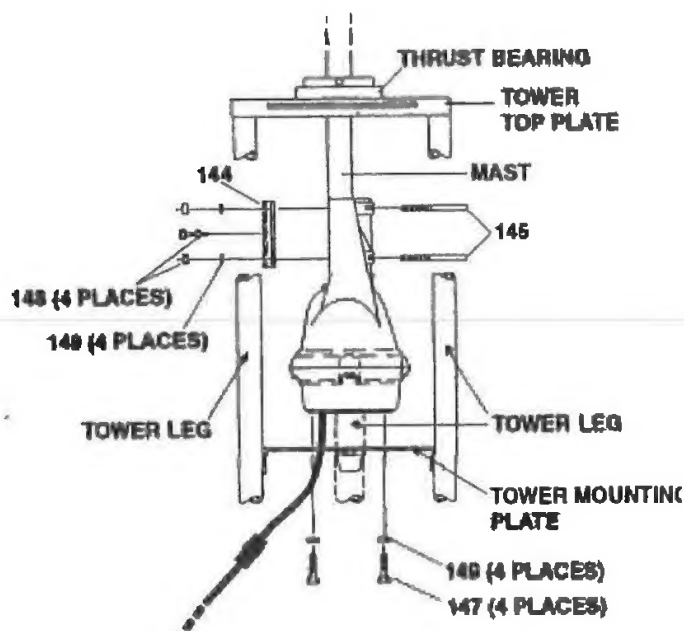

Figure 4
There are three general types of installations (see Figures 4, 5 and 6).
3. The rotator is attached to the tower plate by means of four (4) bolts and lockwashers (see Figure 4). The flat tower plate must be drilled in four (4) places using the template provided with this manual unless the tower plate is already properly drilled.
4. Tighten the four (4) bolts, but not to final tightness. Observe how the rotator turns. It must rotate in such a manner as to turn the mast concentrically in the thrust bearing.
5. Trial assemble the mast to the top of the rotator using the U-bolts, nuts and lockwashers through the rotator and clamp plate as shown in Figure 4. The maximum mast diameter that may be used is 21/16" O.D. We recommend 1 1/2" nominal steel pipe with 1.9" O.D. in standard wall thickness of .145". For stacked arrays or very large beams, we recommend extra heavy-duty wall thickness of .200". Both steel pipes can be purchased to specification ASTM120.